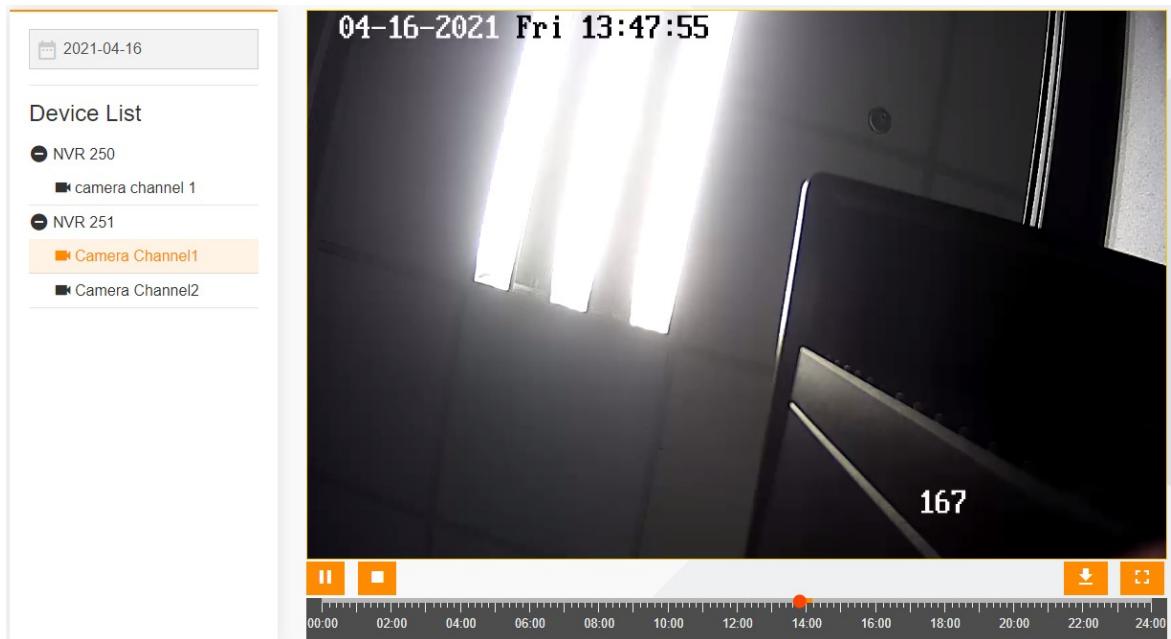

Figure 14-27 Playing the history video
2. When the **playback** button is available, the system plays the video from the start time of the history video if you click the **playback** button, as shown in Figure 14-27.